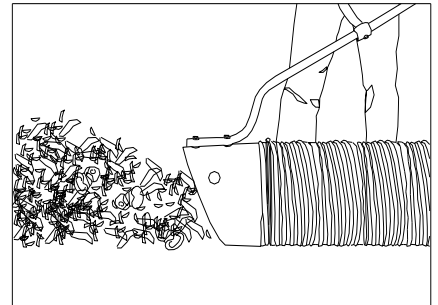
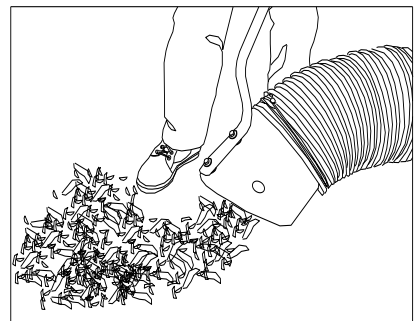

Fig. 4
Fig. 5
**INTAKE OPERATION:** With machine running and fully assembled, move the nozzle in sweeping motions over debris. Always allow air to flow into the nozzle along with the debris. Do not completely block the nozzle when vacuuming, it will reduce performance, and increase clogging (See Fig. 4). For removal of heavier debris, or debris that is stuck to the ground, rock nozzle forward to concentrate suction power around the debris (See Fig. 5).